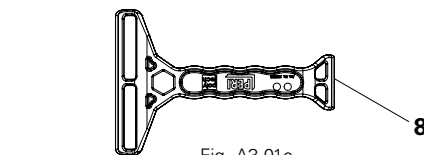

Fig. A3.01c
- DW 15 wingnut counterplate (54) (Fig. A3.01c)
- DW 15 wingnut pivot plate (56) (Fig. A3.01c)